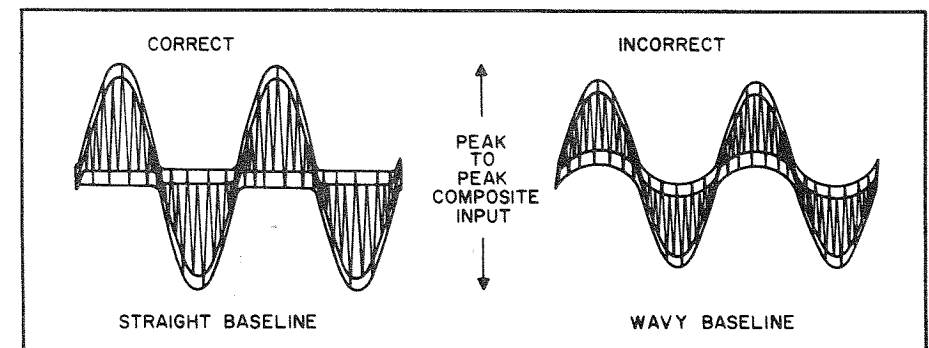

Figure 8. Composite Input To Multiplex Decoder.
(1) Disconnect the jumper lead going to pin 4A (on AM/FM IF, MPX board) and connect the output of the multiplex generator through a 15k resistor to pin 4A.
(2) Connect DC VTVM to Test Point 403 (on AM/FM IF, MPX board). Connect the vertical input of the scope to pin 4A.
(3) Set MPX generator for 19 kHz pilot carrier output only. Adjust pilot level for approximately 120 mV peak-to-peak input at pin 4A.
(4) Adjust cores of Z401 and Z402 (on AM/FM IF, MPX board) for maximum reading on DC VTVM (2.5 to 4 VDC).
(5) Connect output of audio generator, set for 1 kHz, to the external modulation input of MPX generator and to the external sync input of an oscilloscope. Adjust audio generator level for 1.2 volts peak-to-peak composite MPX input (10% pilot, 90% audio). See Figure 8. Modulate right channel only. Proceed with steps (5) through (10) of PREFERRED ALIGNMENT PROCEDURE.
(6) Reconnect the jumper lead going to pin 4A (on AM/FM IF, MPX board) removed previously.